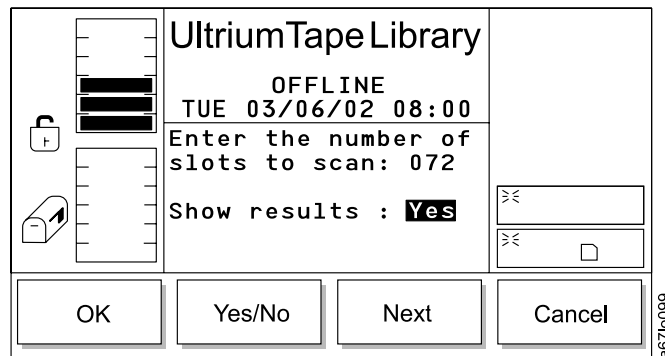

Figure 123. Confirm Dialog
- If **Next** is selected, the next field in the list becomes the active field (see the Confirm Dialog in Figure 123).